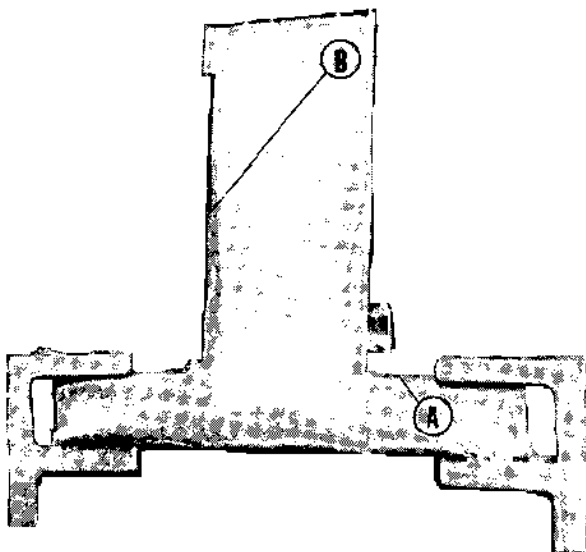

Fig. 24
47. Raise lift to top of post and pull latch release lever on each carriage to lower lift. (See fig. 24).